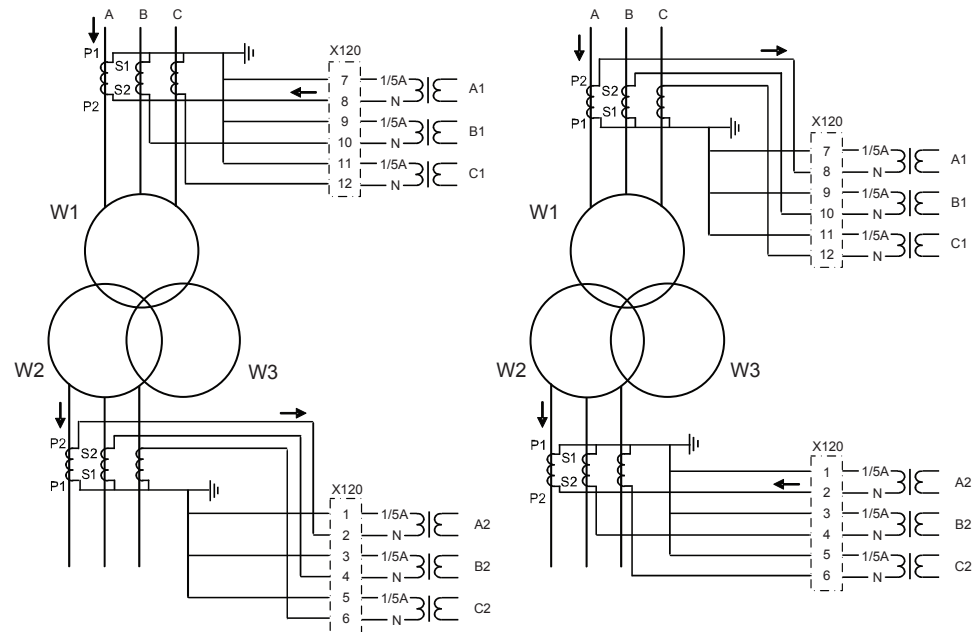

Figure 182: Connection of current transformers of Type 1 and example of currents during external fault
- If the positive directions of the winding 1 and winding 2 relay currents are opposite, the setting parameter *CT connection 1-2* is "Type 1", as shown in Figure 182